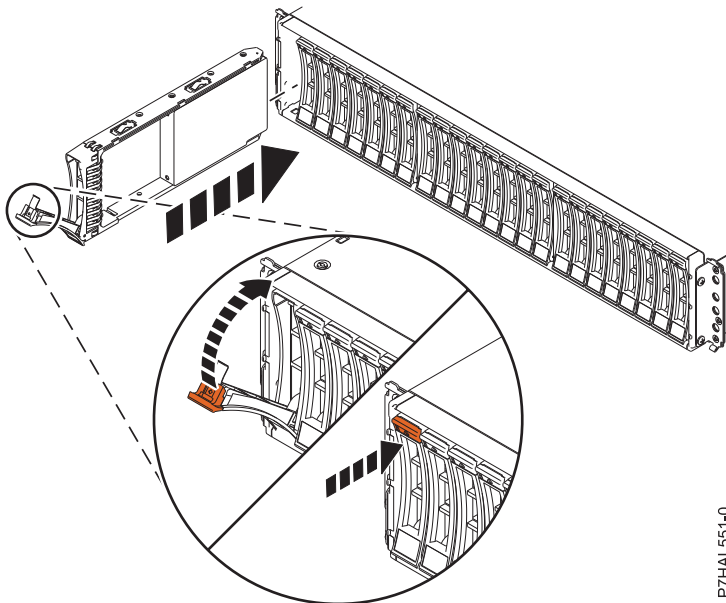

Figure 30. Installing or replacing the disk drive in the 5887 disk drive enclosure
2. With the handle in the unlocked position, as shown in Figure 30 on page 30, support the bottom of the drive as you align it with the guide rails in the enclosure.
6. Lock the drive by rotating the handle (A) in the direction that is shown in Figure 30.